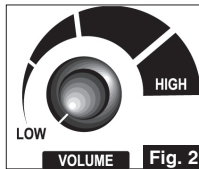

Fig. 2
**IMPORTANT NOTE:** Be certain that the **OFF - ON** switch is in the **OFF** position and the volume control is set to the minimum (**LOW**) volume level (**counterclockwise**) as shown in Fig. 2 while plugging the speaker and power cords into the control unit.